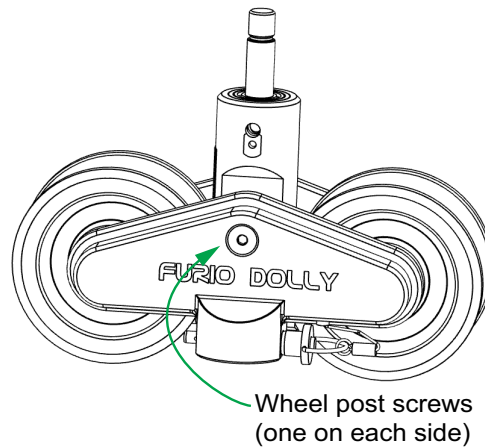

Figure 10 - Removing the Passive Wheel Post Screws
1. Using two 5 mm hexagonal wrenches in opposition to each other, remove the screws that hold the wheel unit together. Refer to **Figure 10**.